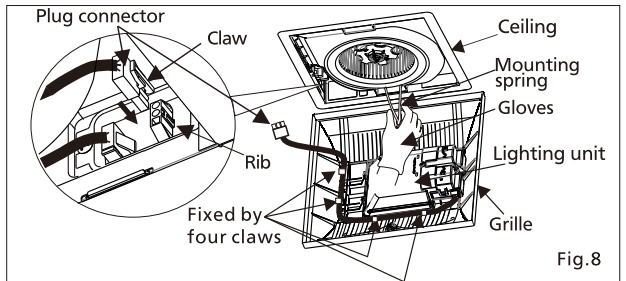

Fig.8
Before turn on the light, make sure the conector insert at the correct position. If not, the lighting can't work. (Fig.8)
The claw of connector must latch the rib completely. (Fig.8)
11. Insert the grille mounting spring which is on the wiring side into the slot. Then Insert the plug connector into the housing of the Junction box (The lead wire should be fixed by the four claws in the grille). Insert the other mounting spring into the slot as shown and mount grille to fan body. (Fig.8, Fig.9)